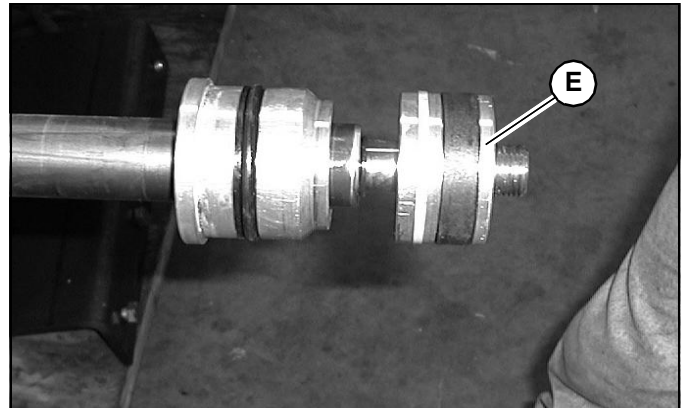

Fig. 175 – Piston/Head Gland Removal
7. Remove piston assembly (E, Fig. 175) from the cylinder rod.